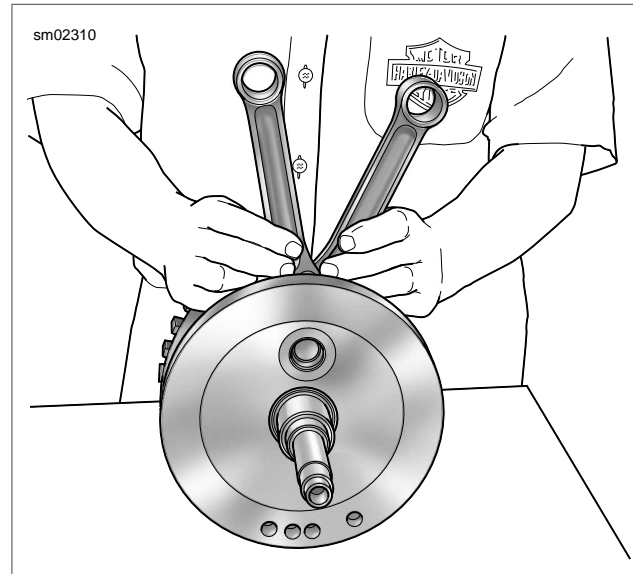

Figure 3-145. Connecting Rod Bearing Clearance
2. Check connecting rod bearing clearance. Orient the assembly as shown in Figure 3-145.